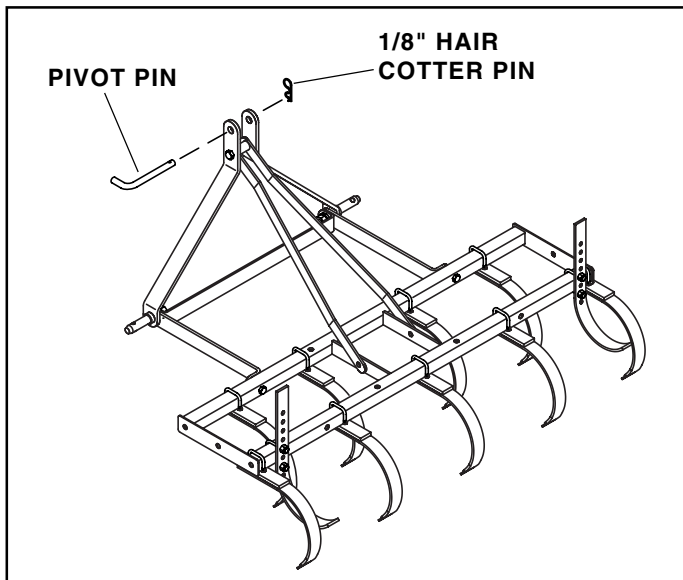

FIGURE 5
5. Install the pivot pin through the upper hole at the end of the mast sides. Secure the pivot pin with a 1/8" hair cotter pin. See figure 5.